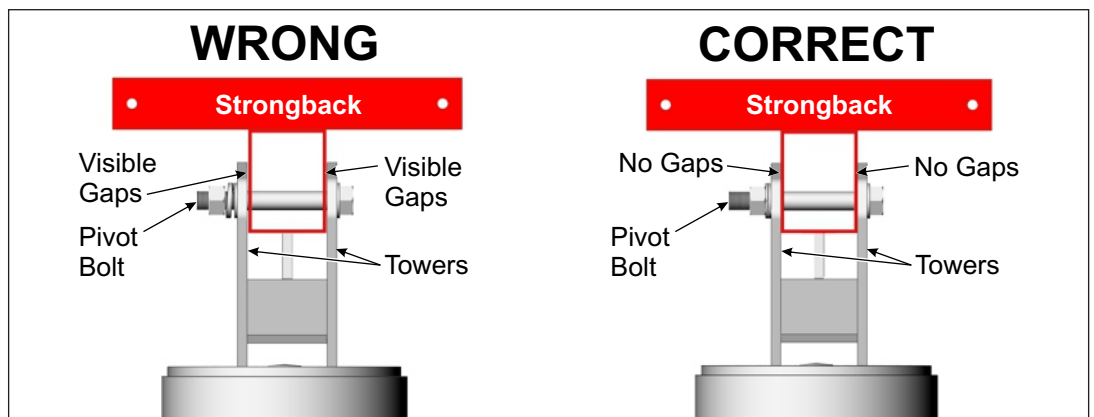

Figure 6-4: Tighten and Torque the Pivot Bolt
- G. Return and tighten the Pivot Bolt. The Pivot Bolt cannot be left loose - the Mounting Sleeve Vertical Towers must be firmly clamped to the sides of the Strongback eliminating any gaps between the Vertical Towers and the Strongback. **Torque to 125-150 ft.-lbs.** (See Figure 6-4)